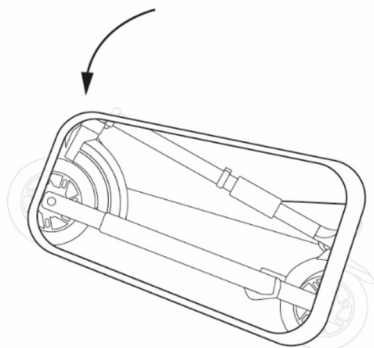

Figure 51 - Scooter fully inserted in the trunk
3. Complete the insertion of the scooter by rotating it and inserting the rear wheel as well (**See Figure 51 - Scooter fully inserted in the trunk**).